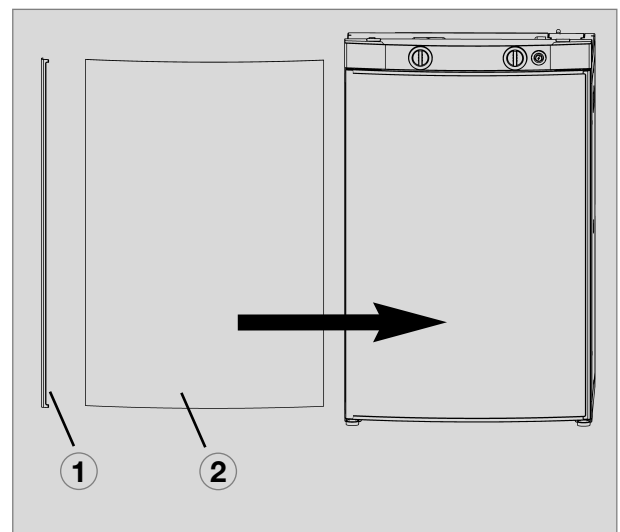

Fig. 36
The refrigerator must be installed draught-proof in a recess (also refer to Section "4.1.4"). The measurements of the recess are stated in the table below. **Step (1)** (Fig. 36) is only required for cabinets with a step. The floor of the recess must be level, allowing the appliance to be pushed easily into its correct position. The floor must be substantial enough to bear the weight of the appliance.